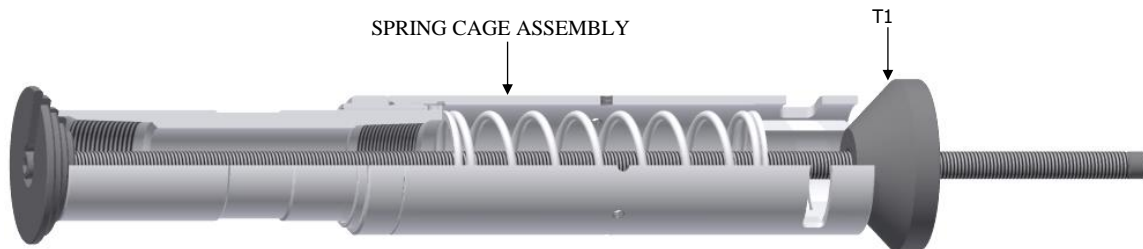

Fig. 4
K-1.1.3) Compress compression spring (4) with assembly tool (T1) (Fig. 4).